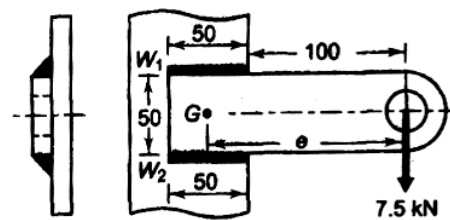

Fig.Q.10(b)
- b. A welded connection shown in Fig. Q 10(b) is subjected to an eccentric load of 7.5 kN. Determine the size of the welds if the permissible shear stress for the weld is 100 N/mm^2 . 10